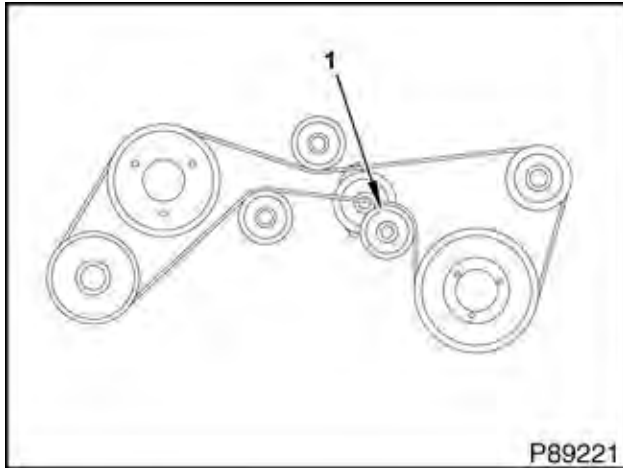

Figure 38. Accessory Belt Routing - Low Mount Fan Drive
36. Release auto-tensioner and install drive belt (Figure 38).